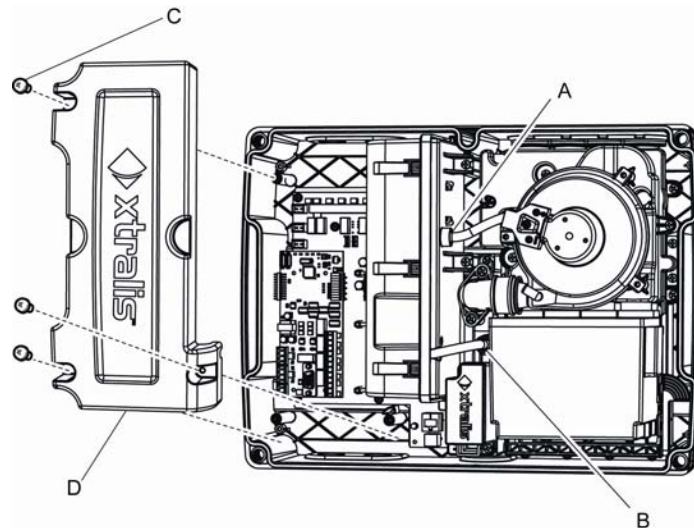

Figure 7-6: Chamber Assembly Replacement - ESD Cover
6. Disconnect the air inlet (Figure 7-6) and the exhaust tube (Figure 7-6D) while sliding the chamber out.